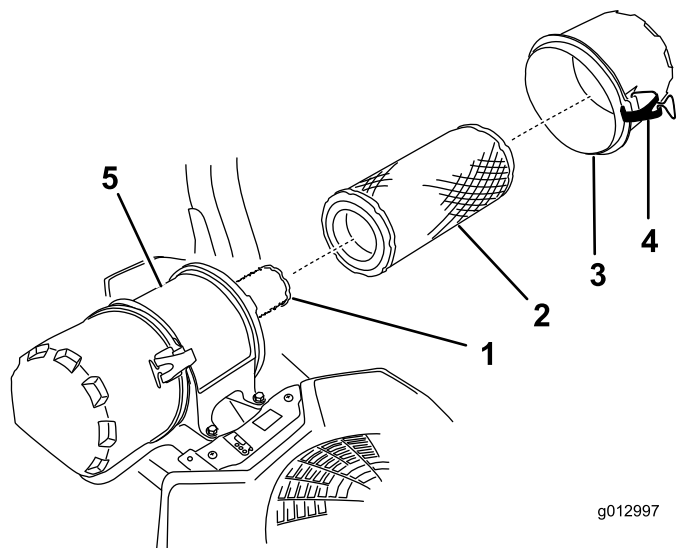

Figure 47
6. Release the latches on the air cleaner and pull the air-cleaner cover off the air-cleaner body (Figure 47).
8. Gently slide the primary filter out of the air-cleaner body (Figure 47).
2. If the inner filter is being replaced, carefully slide it into the filter body (Figure 47).
3. Carefully slide the primary filter over the inner filter (Figure 47).
4. Install the air cleaner cover and secure the latches (Figure 47).